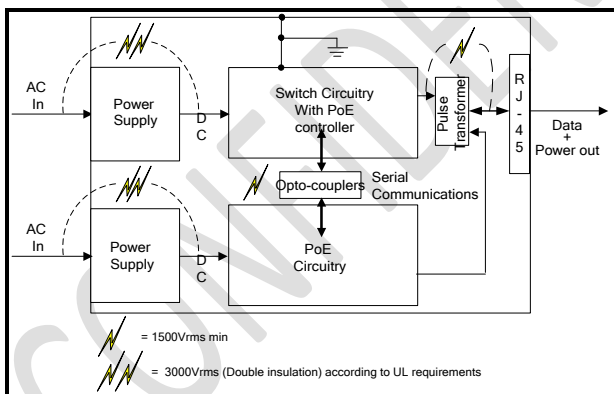

Figure 8: Switch Circuitry with Two DC Source
- ◆ A separate DC input for the switch and the PoE circuitry and isolated serial communication between the PoE circuitry and the switch circuitry (see Figure 8)